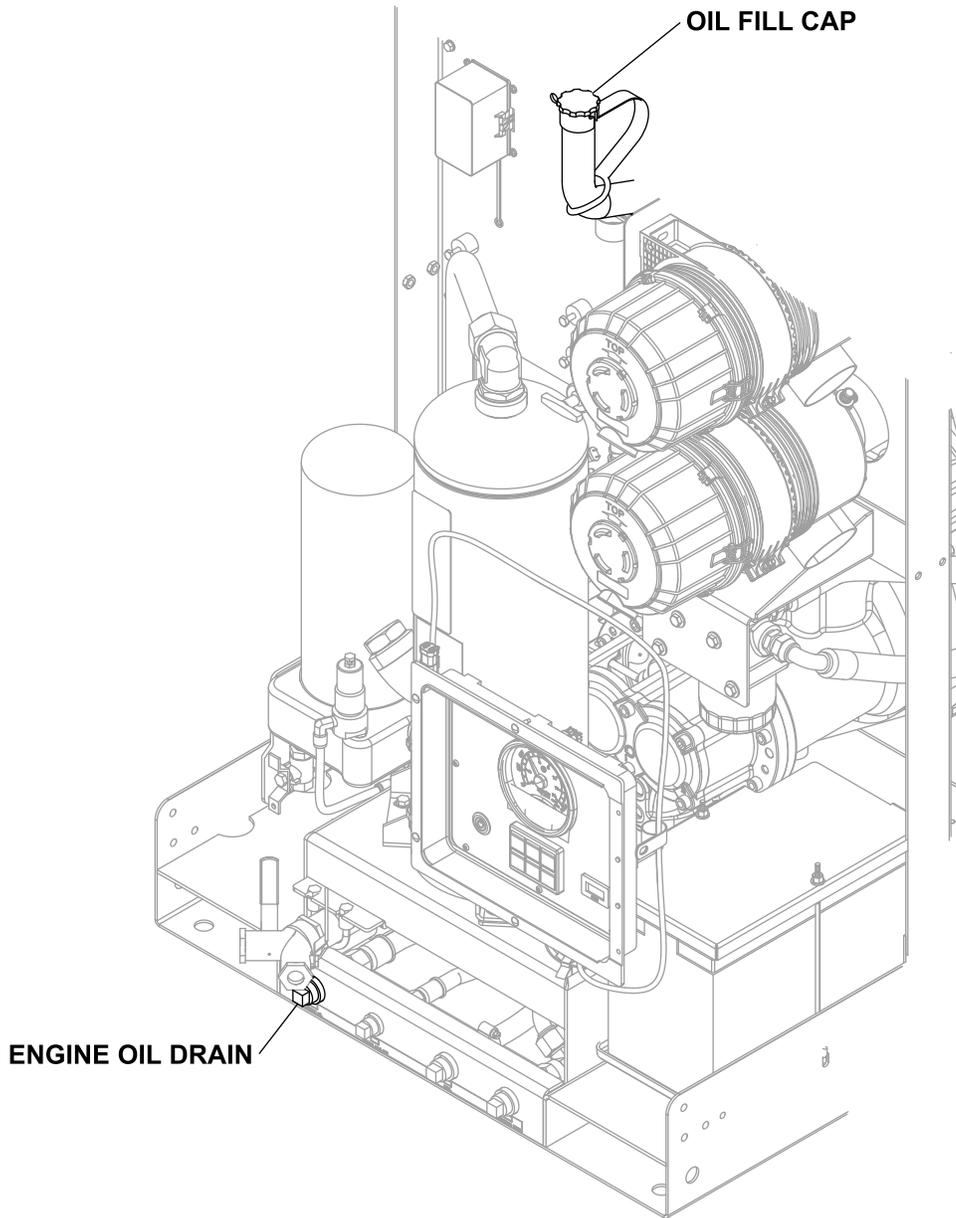

FIGURE 4-4: SHOWING ENGINE OIL DRAIN
3. Loosen the engine oil drain plug. Carefully remove the plug by hand, making sure the catch pan is underneath the plug hole. Oil will flow rapidly from the hole, but allow several minutes for all old oil to drain out. (Refer to engine owner's manual for additional information.) **CAUTION: OIL MAY BE HOT!** (See Figure 4-4).
6. Drain plug at the torque of 3.0 kgf•m to the manufacturer-specified. (Refer to engine owner's manual.) (See Figure 4-4).